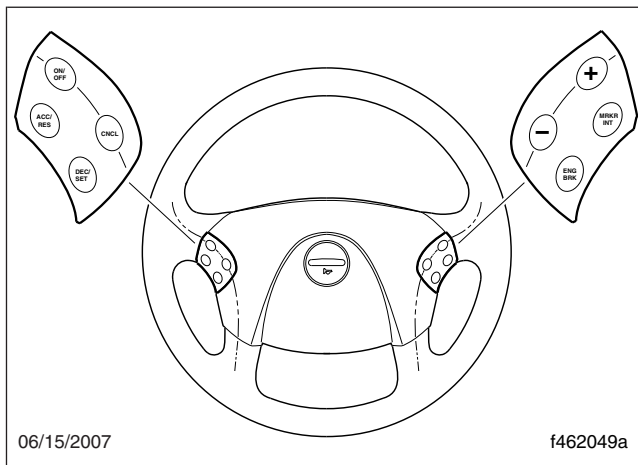
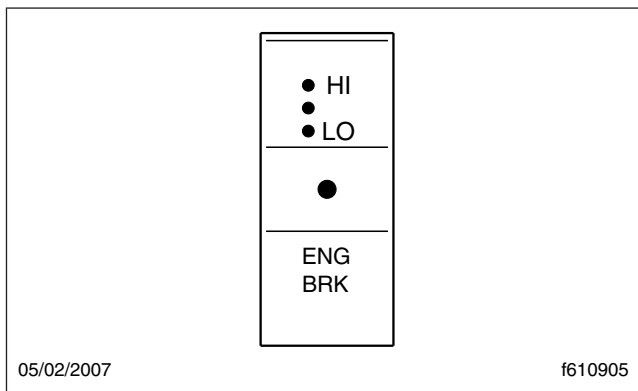

Fig. 13.5, Steering Wheel Switches
Fig. 13.6, Engine Brake Level Switch
The engine brake control depends on vehicle configuration. On some vehicles, there is an engine brake (ENG BRK) switch located in the right-hand pod on the steering wheel that is used to turn the engine brake on and off, and an engine brake level switch on the dash used to set the intensity—high, medium, or low. See Fig. 13.5 and Fig. 13.6.
2. Press the upper half of the on/off switch (see Fig. 13.5) to turn the engine brake on. The engine brake will engage at the rate last set on the engine brake intensity switch and the engine brake lamp will illuminate.
3. Press the upper or lower half of the intensity switch (see Fig. 13.6) to select the desired braking intensity.